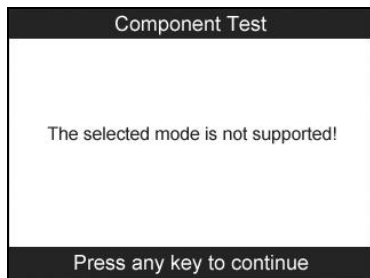

Figure 6.26
- Some vehicles do not allow scan tools to control vehicle systems or components. If the vehicle under test does not support the EVAP Leak Test, an advisory message is displayed on the screen. (Figure 6.26)